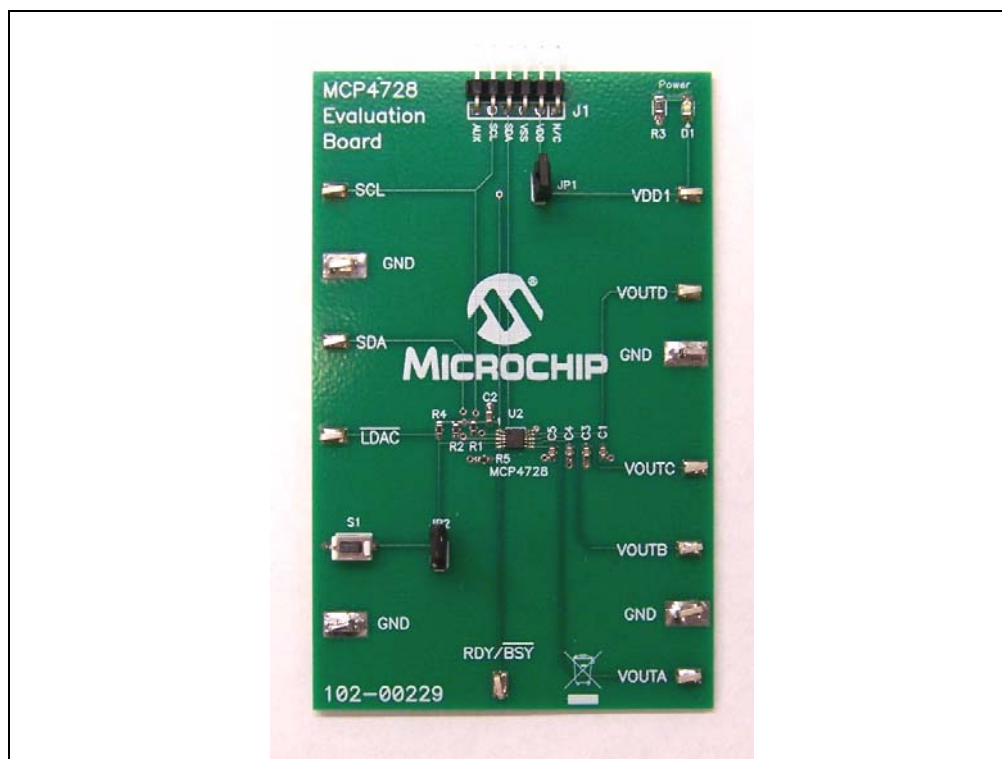
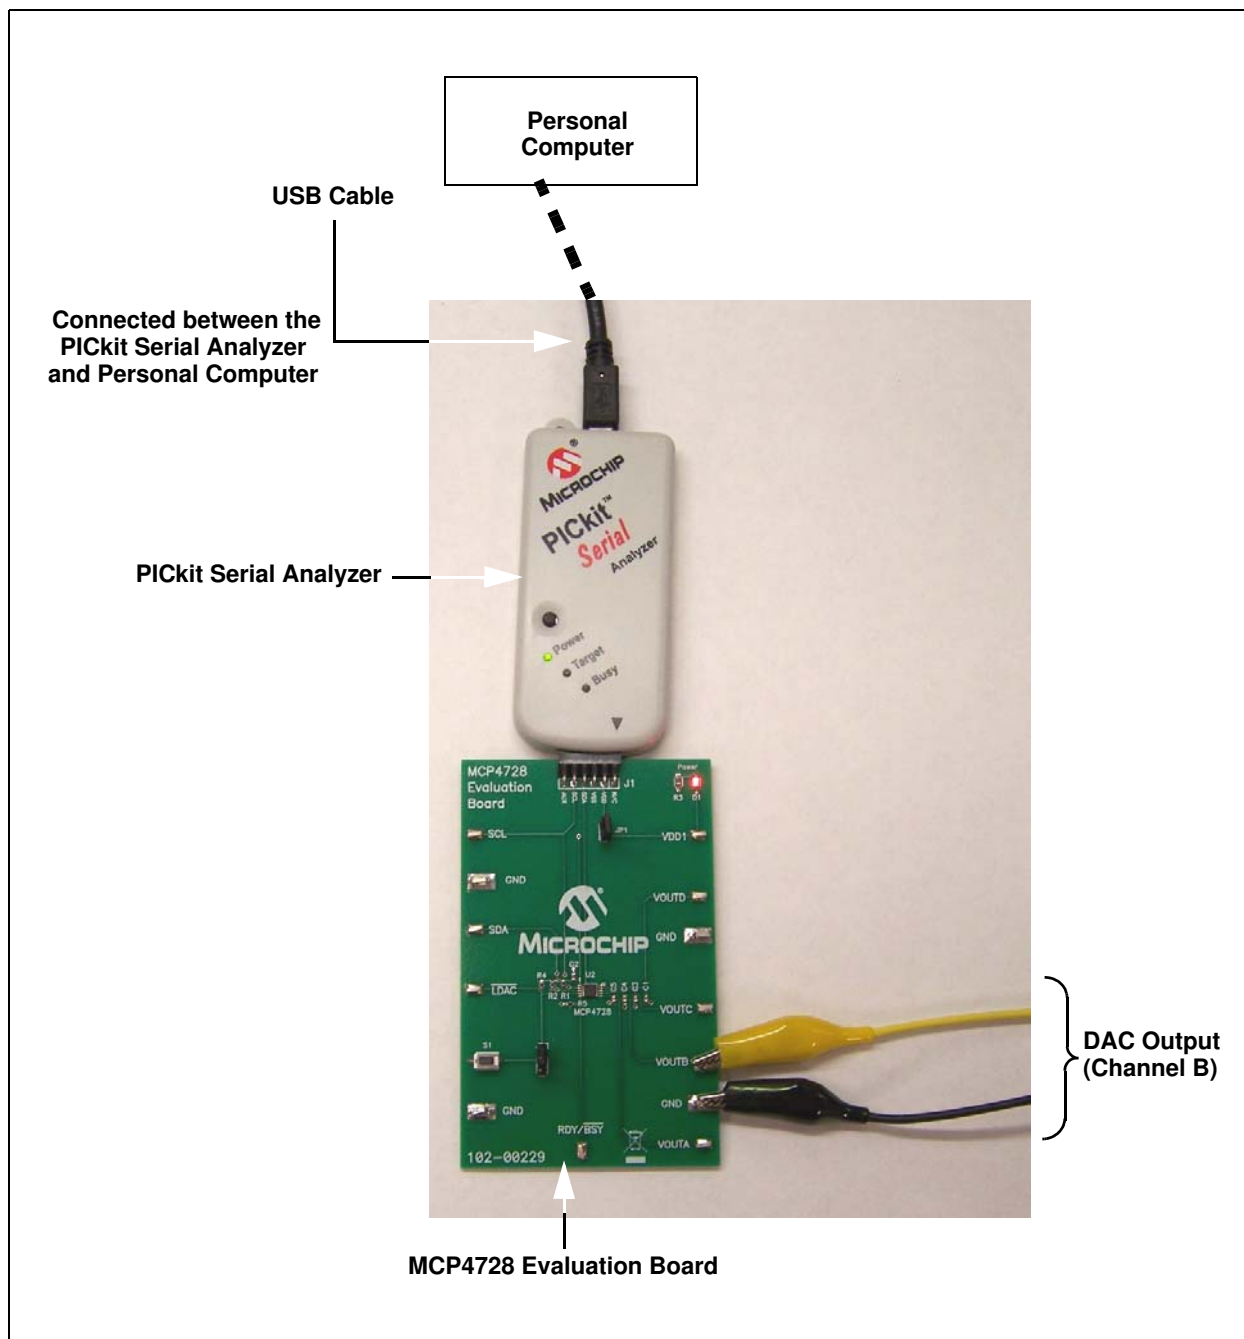

FIGURE 1-1: Front View of the MCP4728 Evaluation Board.
FIGURE 1-2: MCP4728 Evaluation Board with the PICkit Serial Analyzer.
Figure 1-1 shows the MCP4728 Evaluation Board, and Figure 1-2 shows the connection of the MCP4728 Evaluation Board and PICKit Serial Analyzer.
1. Connect the MCP4728 Evaluation Board's 6-pin socket to the PICKit Serial Analyzer as shown in Figure 1-2.